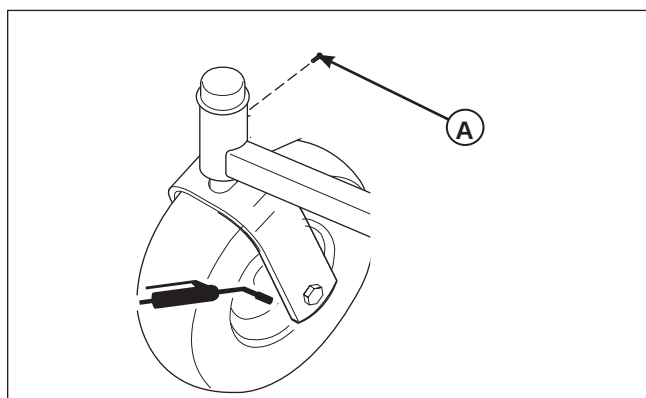

Figure 24. Front Caster & Wheel
1. Remove the 1/4-28 bolt (A, **Figure 24**) screwed into the front caster and install a 1/4-28 grease fitting.